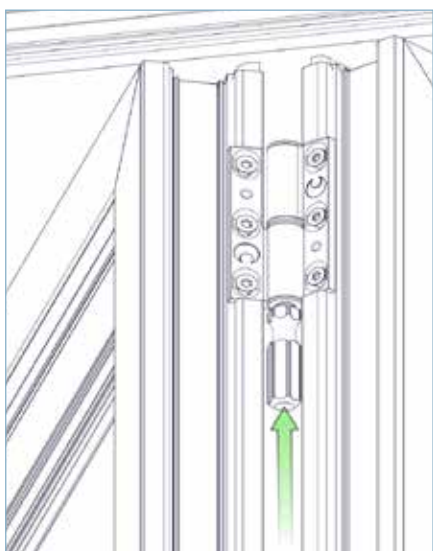

FIG 7D
- ▶ **7.5.** Hang the third door onto the centre hinge and insert a screwdriver through the top hinge; this will support the door whilst the trolleys are located as seen in FIG 7D.